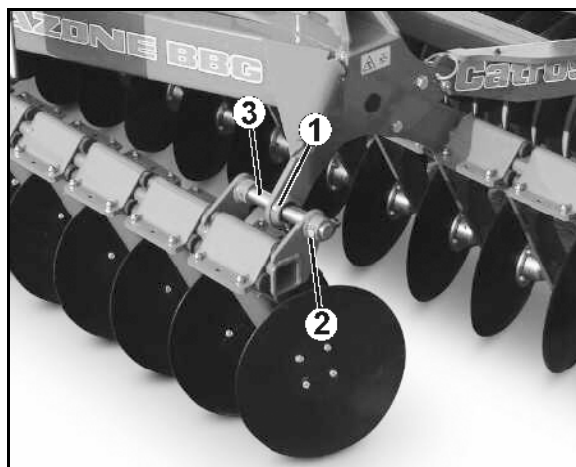

Fig. 47
To replace the slide bearings (Fig. 47/1), place the folded-out machine down so that the slide bearings are free from tension.
1. Release the screw union (Fig. 47/2) of the shifting shaft (Fig. 47/3).